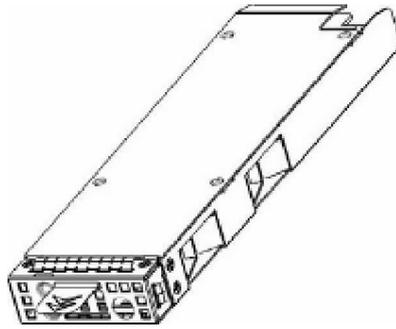

Figure 1-15: Cooling Module
The controller head is equipped with two (2) dual-blower, redundant, hot-swappable cooling modules. They are installed in the cooling module slots next to the controller module. Two (2) LEDs on the front panel indicates the internal cooling fans status. Use the plastic pad to remove the cooling module from the controller head. (See **Figure 1-15.**) Cooling module specifications are listed in **Appendix A.**